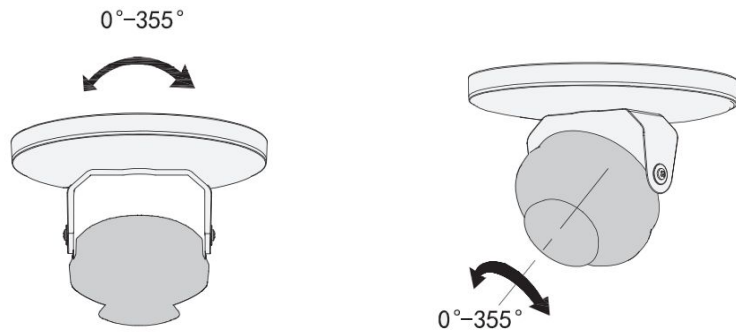

Figure 2-5
Step 5 You can also adjust the camera rotation from the base as well as the lens as necessary. See Figure 2-5.